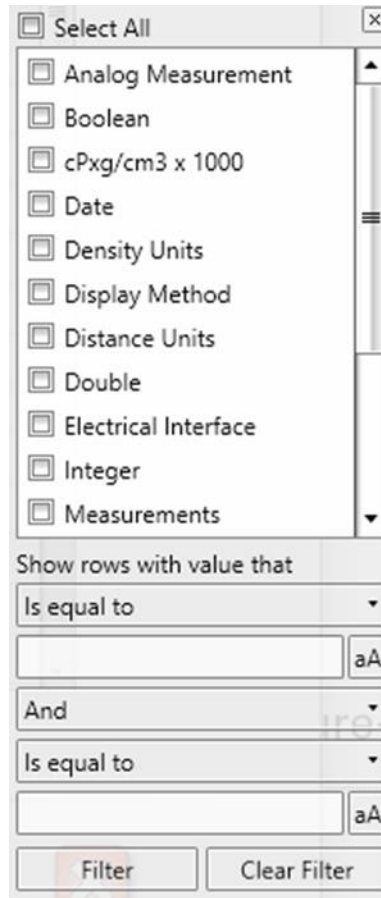

Figure 11.2: "Data Type" Filtering Dialog
- Click on the funnel icon () on the right side of the column header of the column you wish to filter by. This displays the menu shown in Figure 11.2.
The filtering dialog box shown in Figure 11.2 is for the **data type** column. The upper portion of the dialog lists all of the values in the column.
- For example, in Figure 11.2, placing a checkmark in the 'Date' box and clicking "Filter" will filter and display ONLY registers that have the 'Date' data type. Multiple filtering criteria may be selected for advanced filtering.